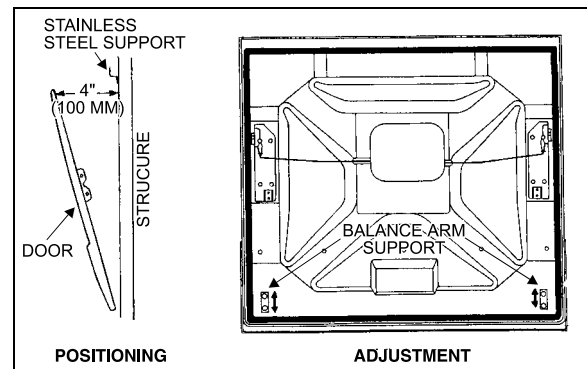

FIGURE 55: BAGGAGE COMPARTMENT DOOR 18065
2. Slightly open the door, position it to obtain a gap of 4 " (100mm) between structure and door panel upper lip, maintain door in this position while an assistant completes tightening the two bolts retaining door to each balance arm support (Fig. 55).